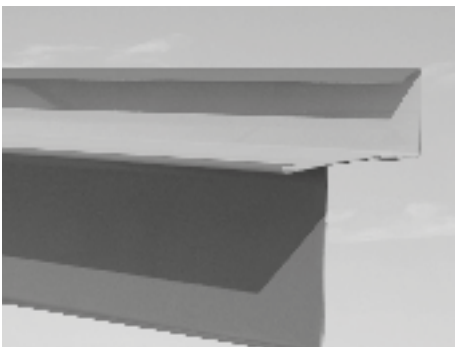

Fig. 21 – Make triangular cut
- 6 Cut away a rectangle 15mm in from the end of the trim beneath the drip bead (Fig. 21).